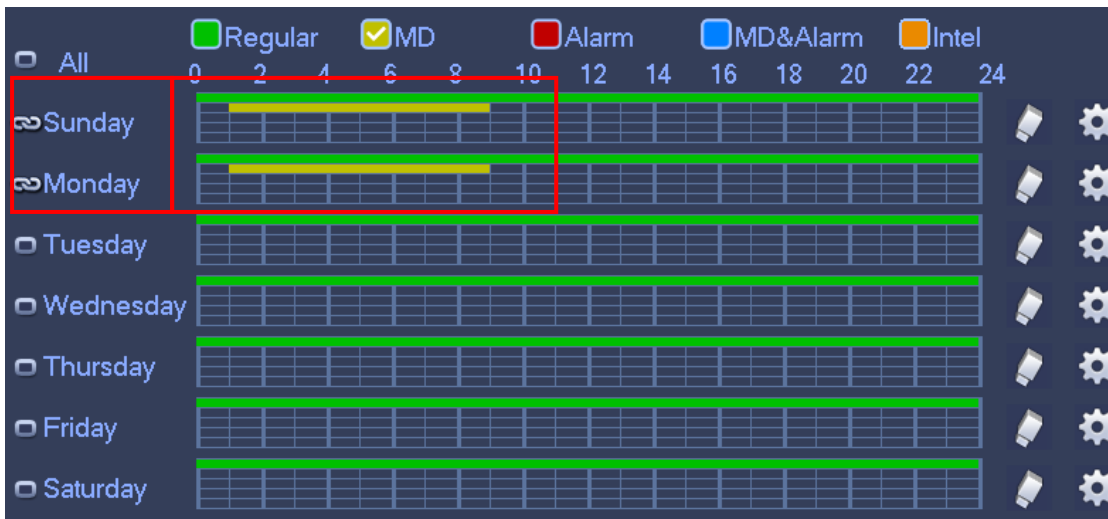

Figure 4-42
- ✧ Please draw manually to set record period. There are six periods in one day. See Figure 4-42.